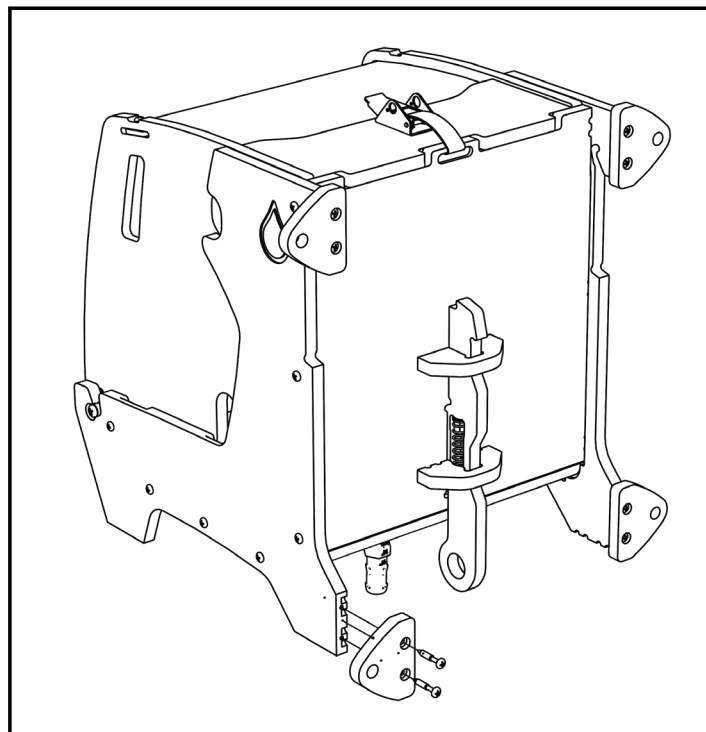

Fig. 4.1: Wall mounting feet attachment
1. To mount the Pump Box to a wall attach the four included mounting feet to the back of the unit as shown in [Figure 4.1]